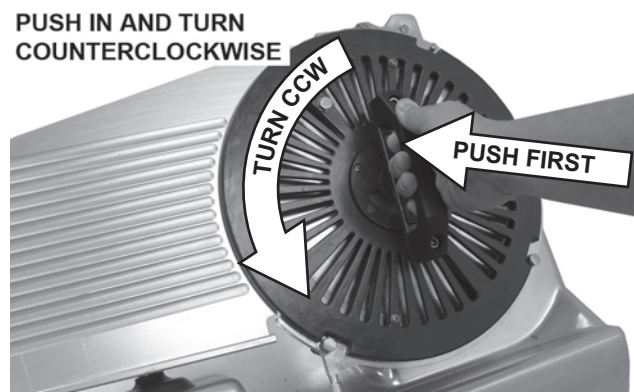

Fig. 15
- Push the Handle firmly, all the way into the hub. Then, turn the Handle counterclockwise until it stops (Fig. 15). Some resistance may be experienced when turning.
- Lift Knife and Tool up and out (Fig. 15).